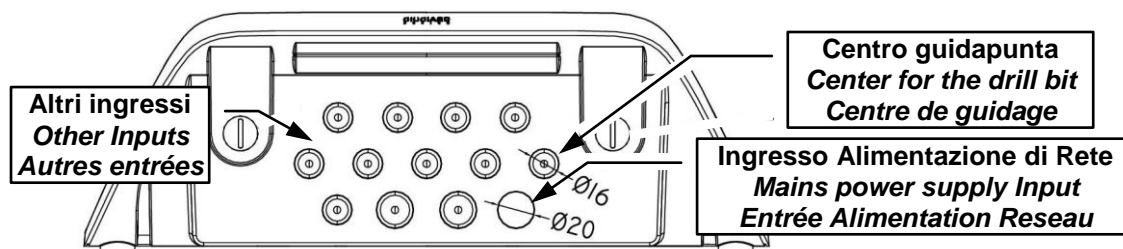
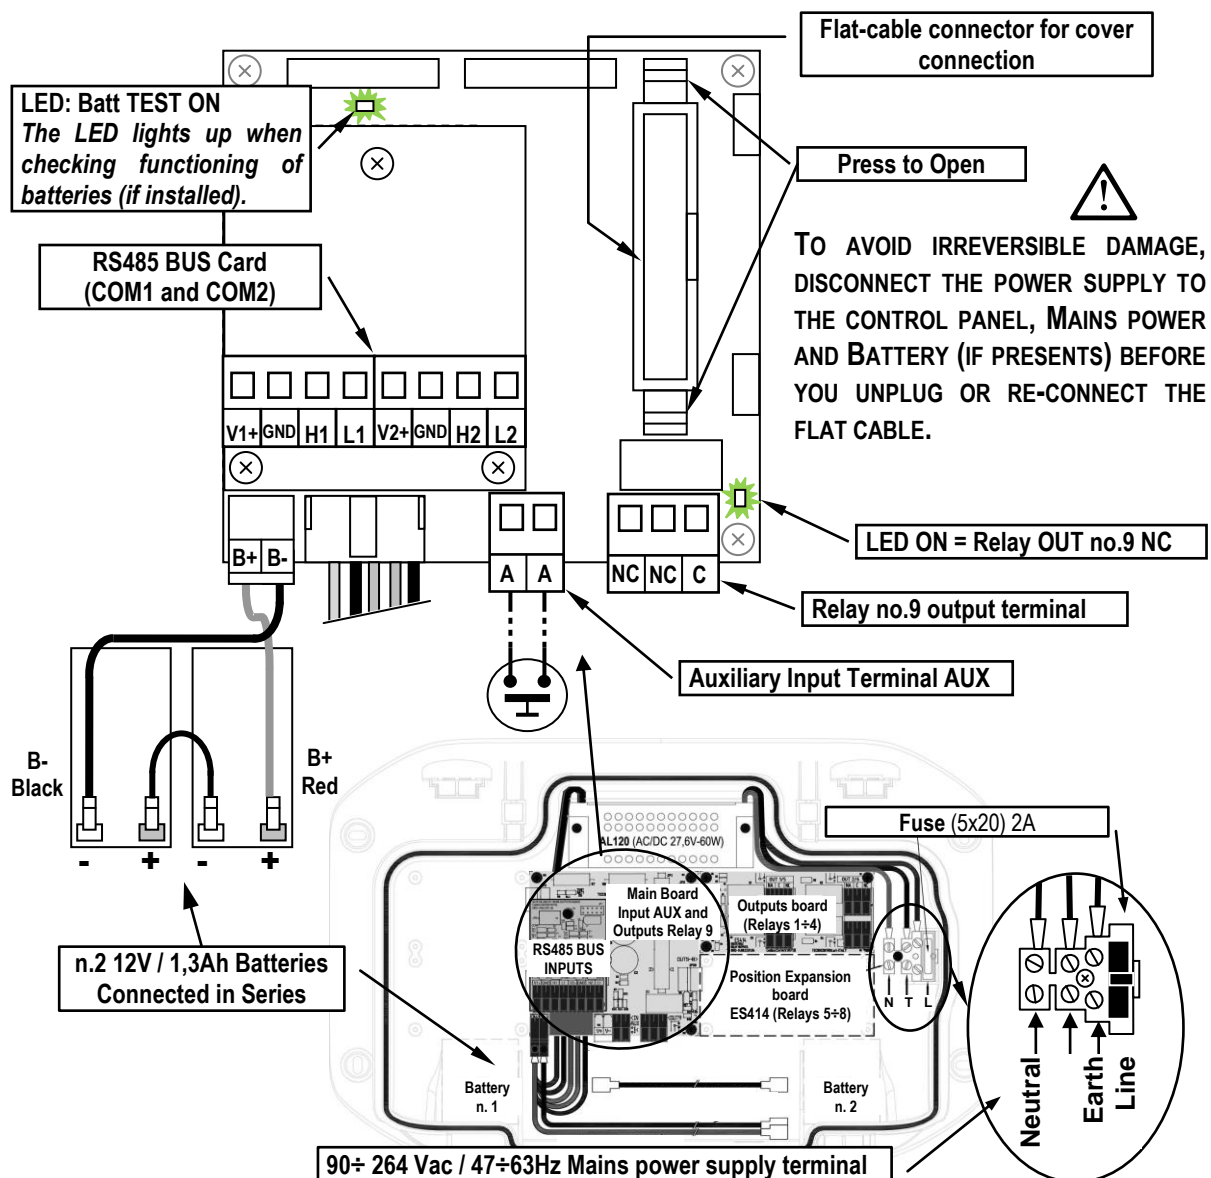

Fig.4 – Inputs for cable glands
Fig 5. – CE516P Wiring diagram for Power, Batteries, AUX input and relay output No.9.
The details of the connections to the mains, the two batteries, the AUX input and relay output R9 are illustrated in Figure 4. While the details of the connections to the sensors and the other outputs are illustrated in Figure 5.
**BATTERIES:** Inside the housing, it can also accommodate **two 12V/1.3Ah Lead batteries** connected in series (Fig.5) to assure the system powering in case of mains blackout.
**The connection to the internal outputs (relays 1 to 9)** should be performed on the outputs board, mounted in the base, on the right. The relay output no.9 is located on the central board, see Figure 5. The relays nominal load is **250 VAC - 2 A** or **30 VDC - 2 A (resistive load)**.